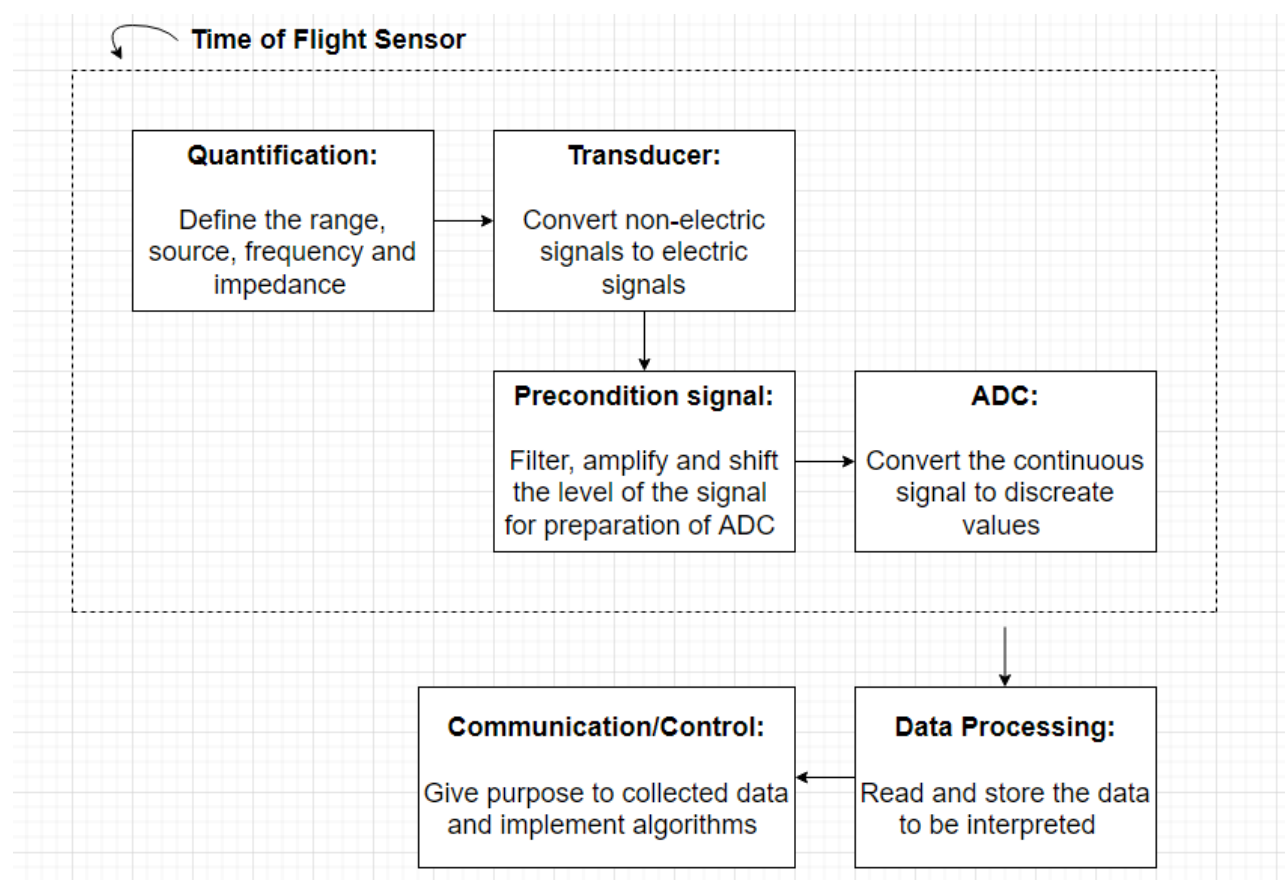

Figure 1: Block Diagram
1. Assembly of the circuit and device are shown in figure 1. The pin connection are described in Section 2
a. Figure 1: Circuit Schematic